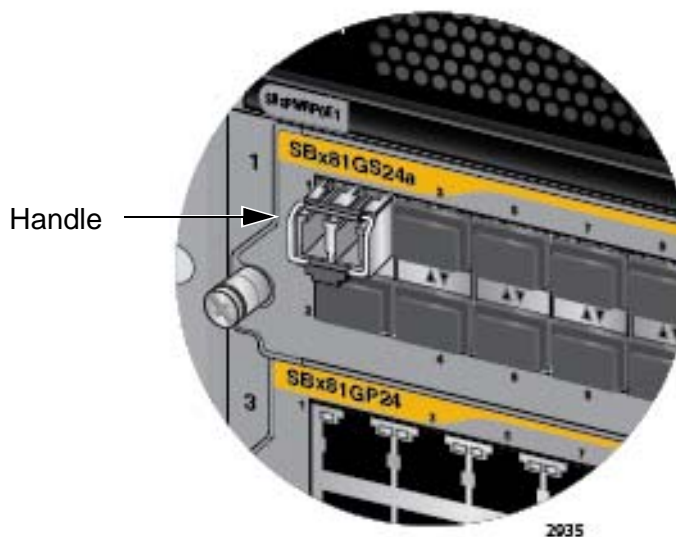

Figure 81. Verifying the Position of the Handle on an SFP Transceiver in the AT-SBx81GS24a Line Card
6. Before connecting the cable, verify the position of the handle on the SFP transceiver. The handle should be in the up position if the transceiver is in the top row on the line card, as shown in Figure 81, or the down position if the transceiver is in the bottom row.